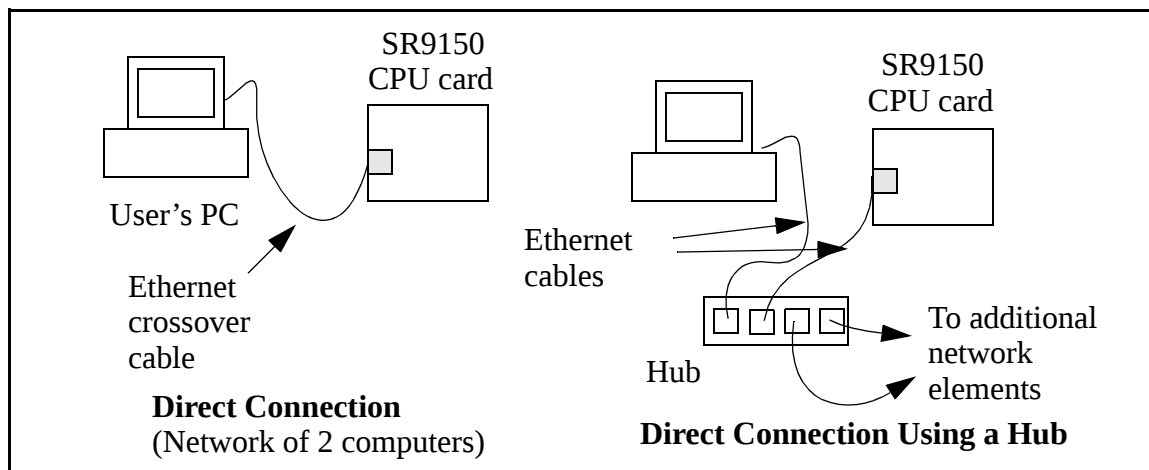

Figure 18. Ethernet Connections
- If you have an Ethernet connection, use a straight-through Ethernet cable to establish an Ethernet connection to the installed CPU card from an Ethernet hub. These connections are shown in Figure 18.